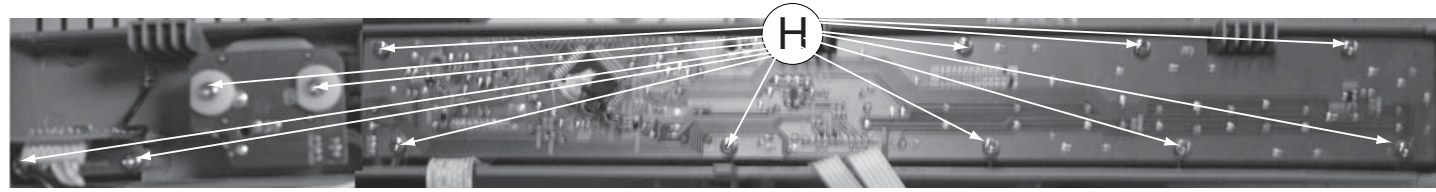

Figure 8
1) Loosen 13 screws "H" at the back pancele as shown in figure 8